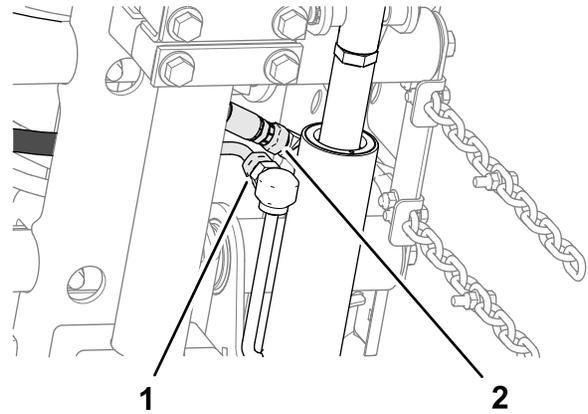

Figure 16
- Align a spacer between the carrier plate and mounting plate (Figure 16), and loosely assemble the plates and spacer with a carriage bolt (3/8 x 1-1/4 inches) and flange locknut (3/8 inch).